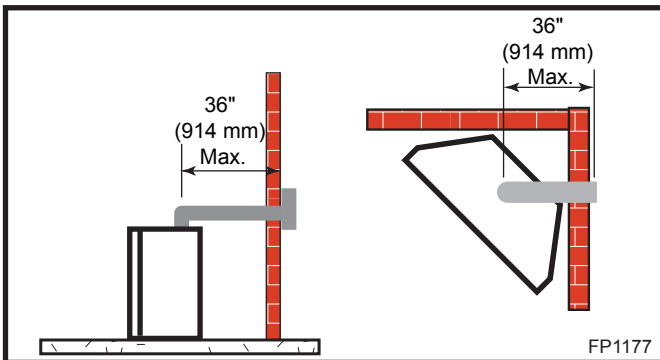
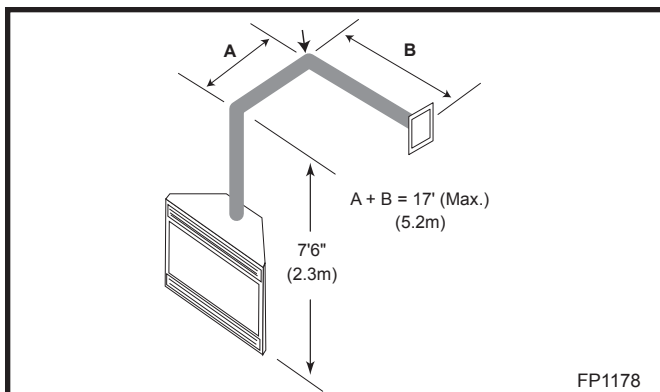

Fig. 12 Maximum horizontal run with no rise.
Fig. 13 Horizontal run reduction.
- If a 90° elbow is fitted directly on top of the fireplace flange, the maximum horizontal vent run before the termination or a vertical rise is 36" (914 mm). (Fig. 12)
- If a 90° elbow is used in the horizontal vent run (level height maintained) the maximum horizontal vent length is reduced by 36" (914 mm). (Fig. 12) This does not apply if the 90° elbows are used to increase or redirect a vertical rise. (Fig. 13)
Example: According to the vent graph (Page 10) the maximum horizontal vent length in a system with a 7.5' (2.3 m) vertical rise is 20' (6 m) and if a 90° elbow is required in the horizontal vent it must be reduced to 17' (5.2 m). In Figure 13 Dimension A plus B must not be greater than 17' (5.2 m).